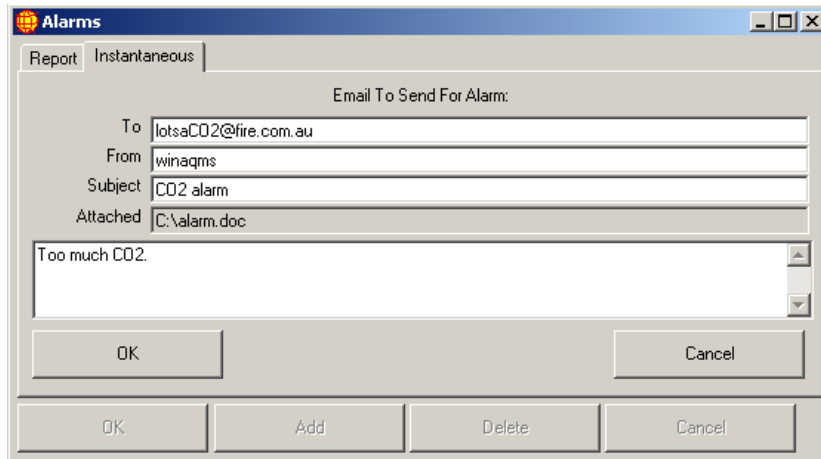

Figure 34 Alarm Email Details
- The *Email Details View/Set* button will open up a window as shown below in Figure 34.